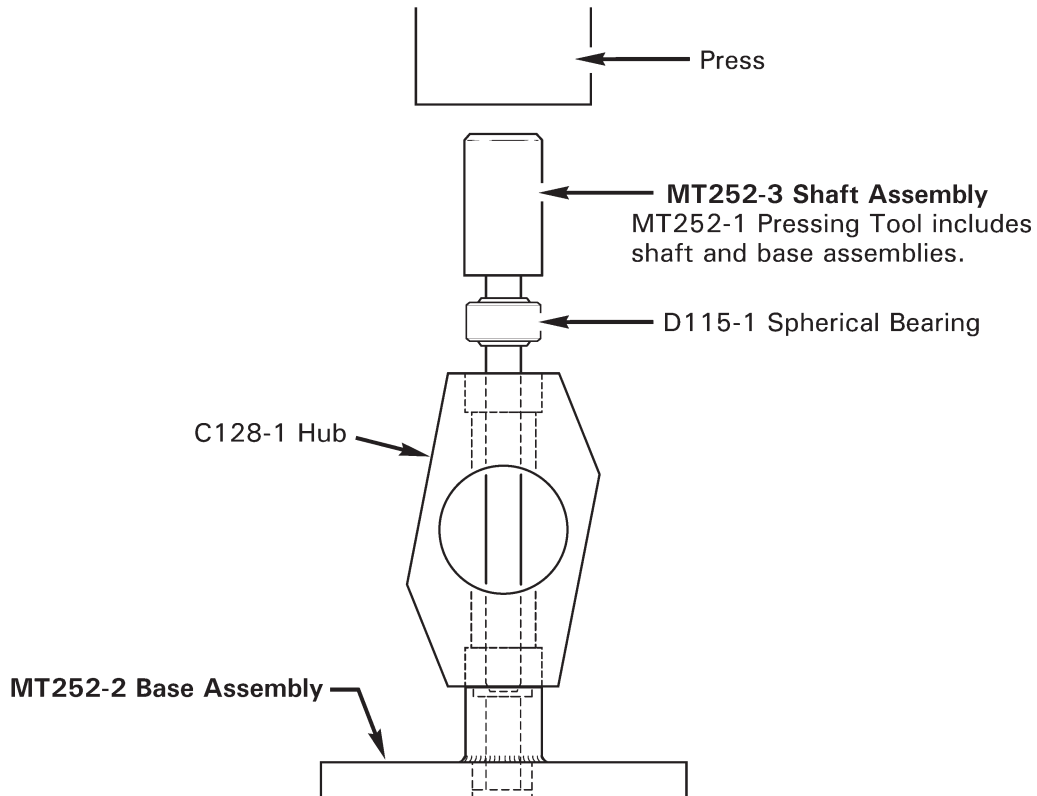

FIGURE 30-11 SPHERICAL BEARING INSTALLATION
2. Refer to Figure 30-11. Using Q-tip, apply light coat of approved primer (see § 23-70) to bottom of hub bearing bore. Apply a thin line of primer to center of bearing outside diameter. While primer is wet, press bearing flush with top of hub using MT252-1 bearing installation tools. Wipe away excess primer.